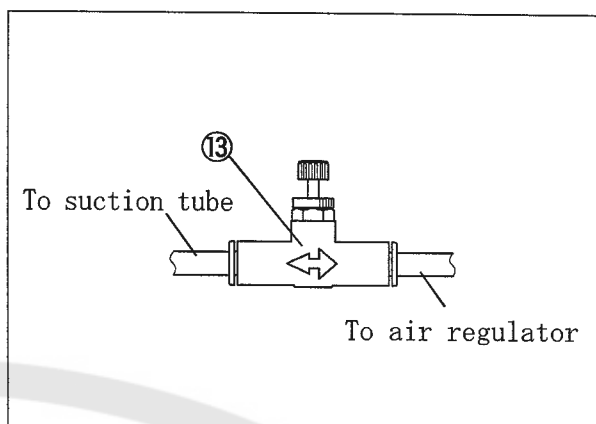
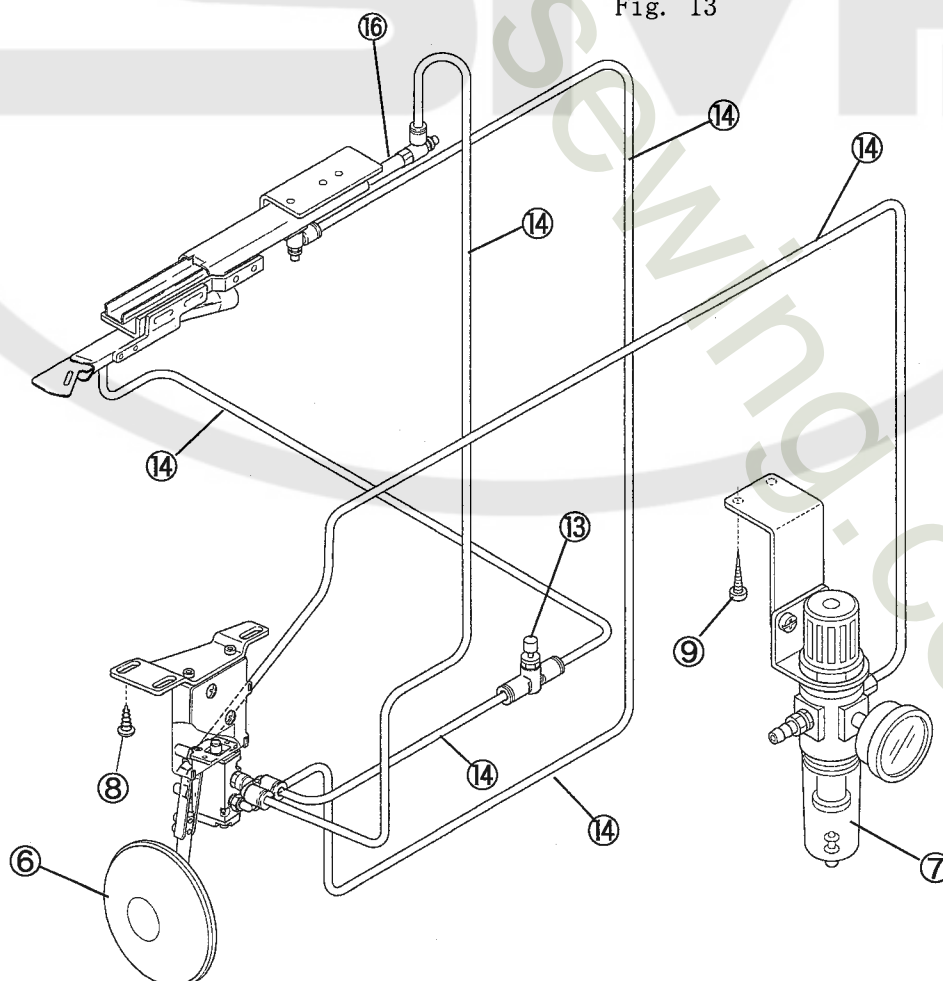

Fig. 12
Fig. 14
- (1) Set the device ④ horizontally to the machine frame with two screws ⑤.
- (2) Set the toggle switch ⑥ with two screws ⑧ and air regulator ⑦ with two screws ⑨ under the machine table. (Fig. 14)
- (4) Connect the air pipe⑭ referring to Fig. 14. Check the in-line speed controller⑬ is set correctly. (Fig. 12)